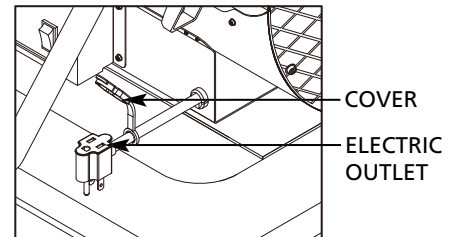

Figure 8. Piggyback Power Cord
- Always cover electrical outlet when not in use. See Figure 8.